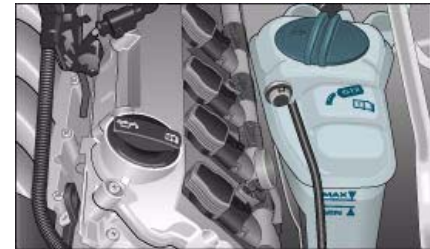

Fig. 215 Engine compartment: Markings on radiator expansion tank
- Read off coolant level on radiator expansion tank ⇒ fig. 215. When the engine is cold it should be between the "MIN" and "MAX" marks. When the engine is hot it may be slightly above the "MAX" mark.
- Cover the cap on the expansion tank ⇒ *page 225*, fig. 215 with a cloth, and **carefully** unscrew the cap anti-clockwise ⇒ .